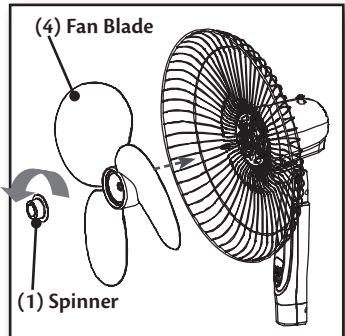

Figure 5.
5. Install the Fan Blade (4) by sliding it over the motor housing shaft, lining up the cut-outs on the back of the Blade with the Retaining Pins on the Motor shaft. **Figure 5.**
6. Screw the Spinner (1) onto the shaft counterclockwise until secure. **Figure 5.**